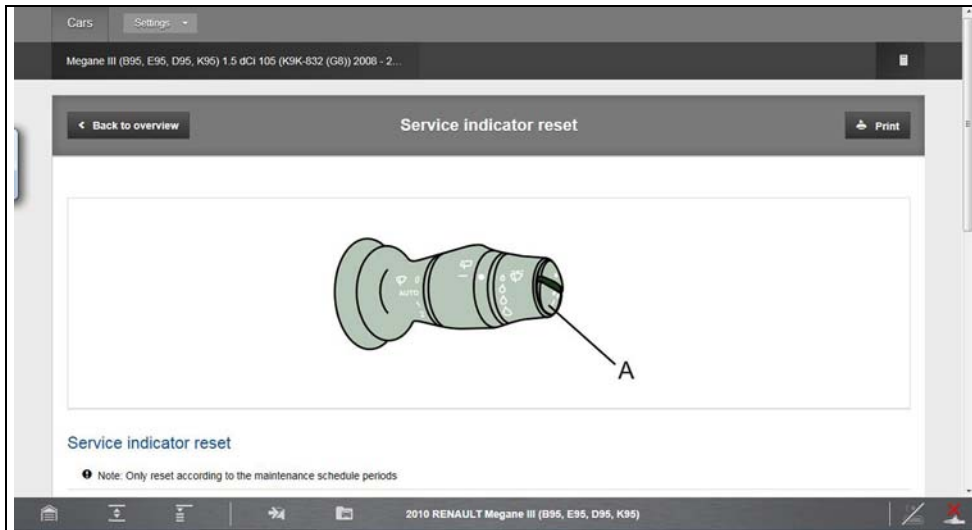

Figure 9-15
- **Service Indicator Reset** - (Figure 9-15) Indicator reset procedures.